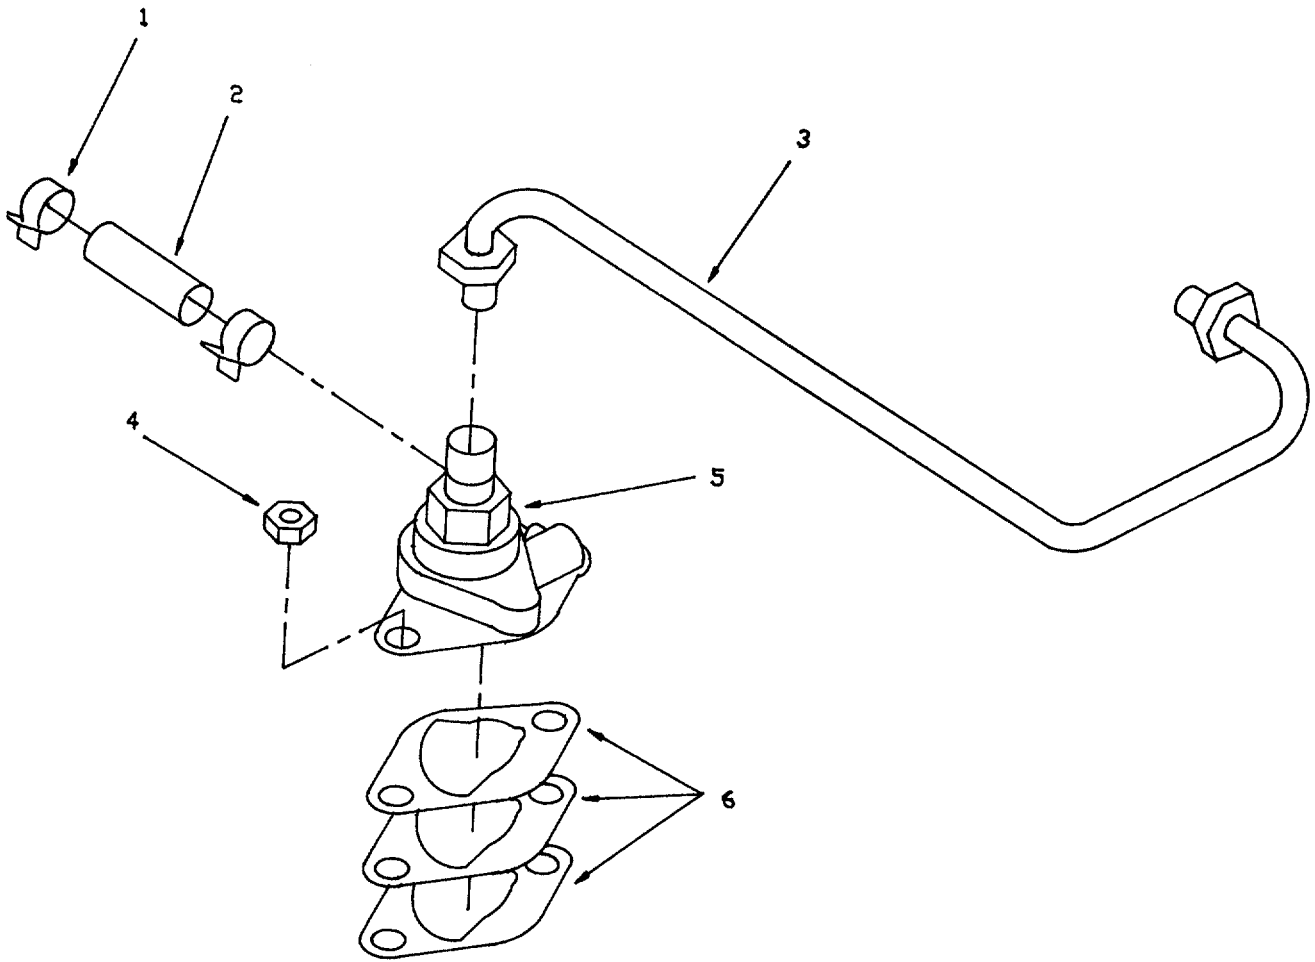

Figure 4-12. Fuel Pump.
- (1) Remove loop clamp (1, Figure 4-12) and nonmetallic tubing (2).
- (2) Remove metallic pipe (3).
- (3) Remove plain hexagon nuts (4).
- (4) Remove fuel pump (5) and shim set (6).